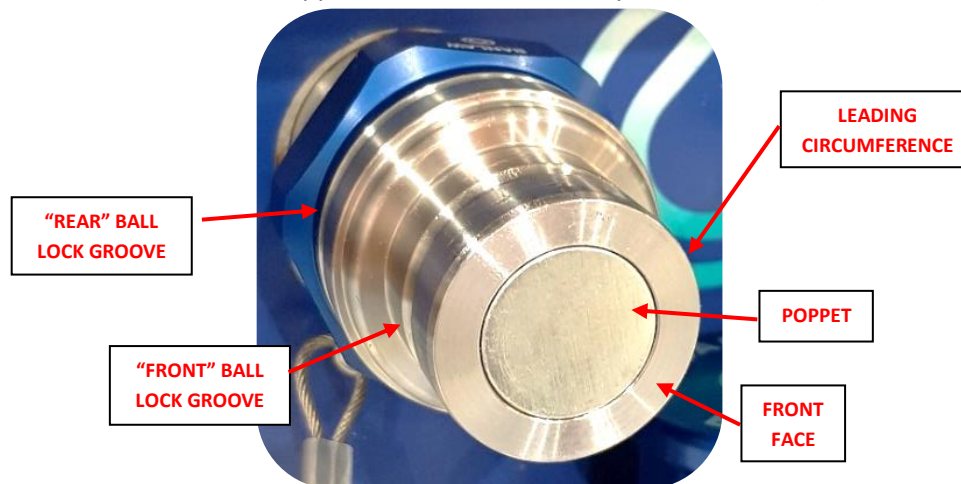
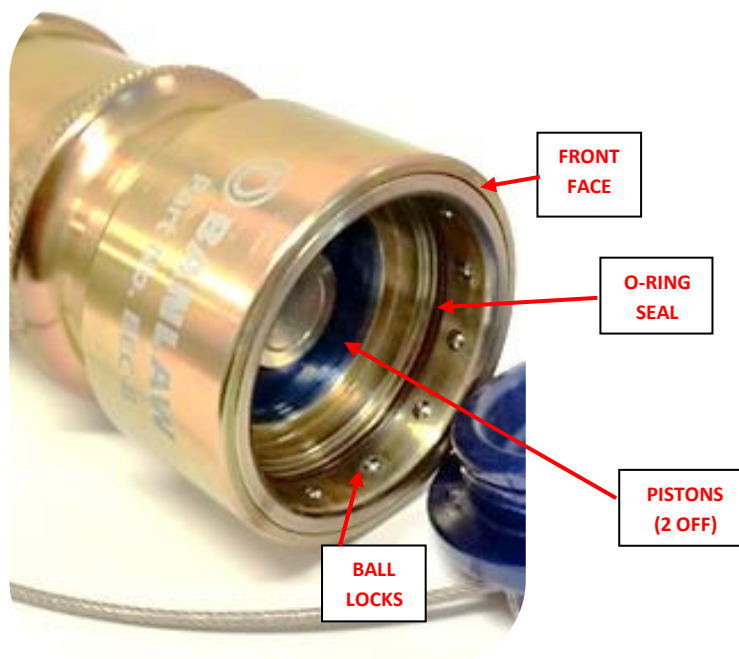

Figure 12 - Critical Areas of Damage on BPL Receivers
Figure 14 - Critical Areas of Damage on the Evacuation Coupling
- **Closely** inspect the front area of the BPL **Receiver** (Figure 12) and Evacuation Coupling (Figure 14) for excessive wear or damage;
Leakage from between Evacuation Coupling and Receiver when connected	<ul style="list-style-type: none"> <li>• Faulty internal seal – replace Evacuation Coupling;                             <ul style="list-style-type: none"> <li>○ The O-ring seal within the front of the Evacuation Coupling – refer Figure 14 and section 6.1 – is especially vulnerable to damage and may require regular replacement;                                     <ul style="list-style-type: none"> <li>▪ BS033 Viton (or NBR) for BEC-B.</li> <li>▪ BS033 Fluorosilicone for BEC-B-CT.</li> </ul> </li> </ul> </li> <li>• Contamination causing poor sealing. Attempt to rectify by flushing the Evacuation Coupling with a (compatible) clean liquid.</li> <li>• Couplings improperly connected – refer section 5.</li> <li>• Damage to a sealing face within the Evacuation Coupling or on the Receiver. Identify, repair damage, or replace damaged coupling.</li> </ul>